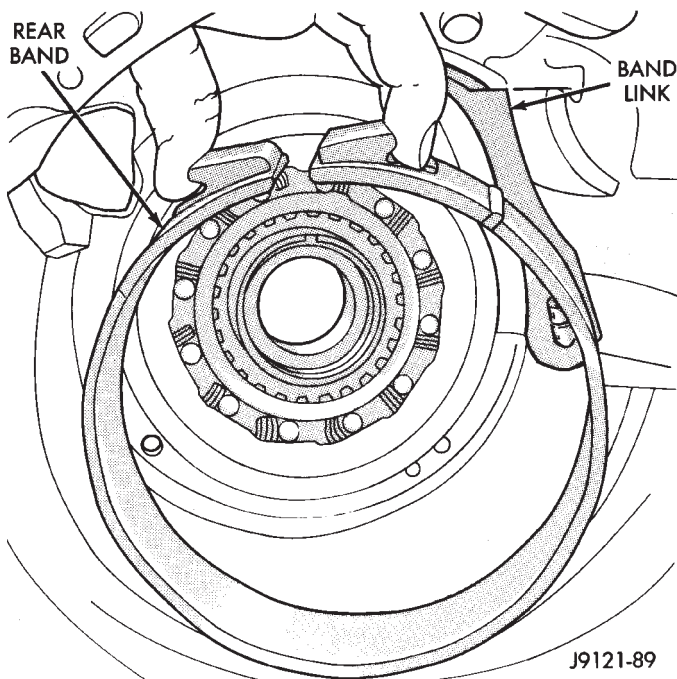

Fig. 126 Rear Band And Link
(1) Install overrunning clutch components if not yet installed.
(2) Position rear band and link in case (Fig. 126).